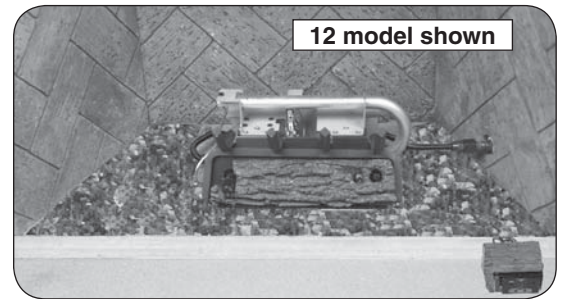

Fig. 17-1 Place lava granules
1. Spread the supplied lava granules on the floor of the fireplace, around the front and sides of the burner system (see Fig. 17-1). The lava granules may be placed around the remote receiver (if applicable). Leave the front of the receiver clear for control access.